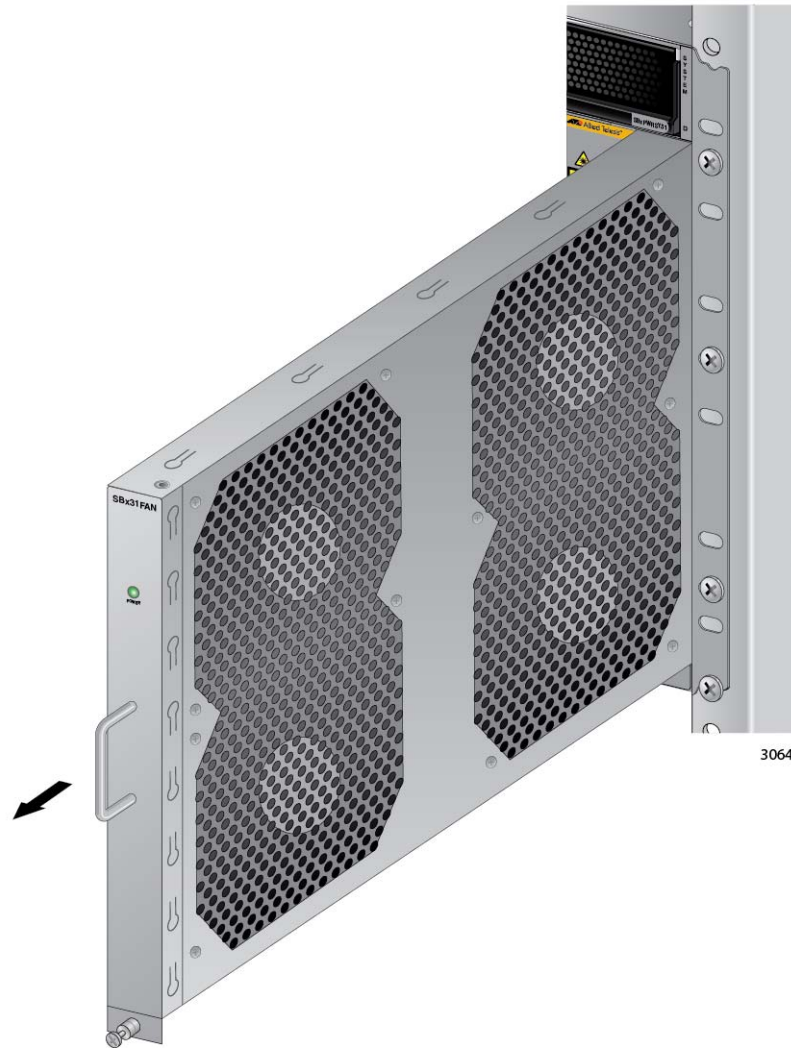

Figure 152. Removing the AT-SBxFAN12 Fan Module from the Chassis
6. After the fans have stopped, slide the module from the chassis. Refer to Figure 152 on page 228.